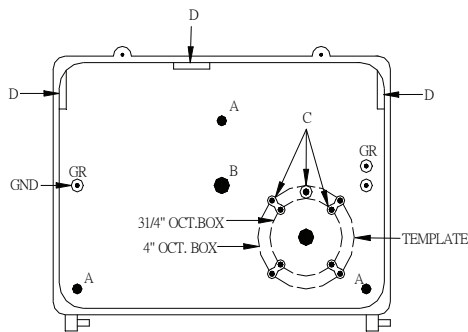

FIG.2
2. Prepare the back plate for mounting by drilling or knocking out the appropriate holes. (See Fig. 2).